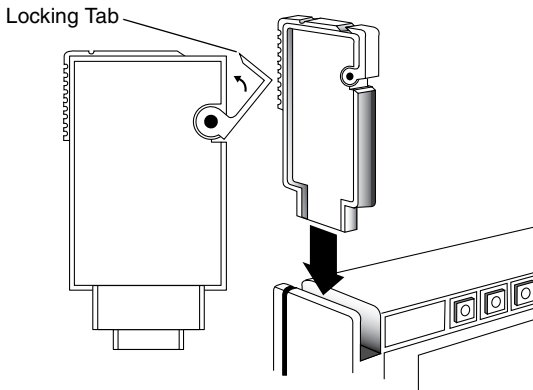

Figure 2. Insert software cartridge.
1. Insert it, connector end first, into the cartridge receptacle (Figure 2).